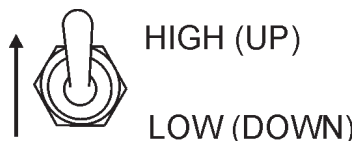

Figure 54. Engine Speed Switch (High)
29. Set the engine speed switch (Figure 54) to the "HIGH" position.